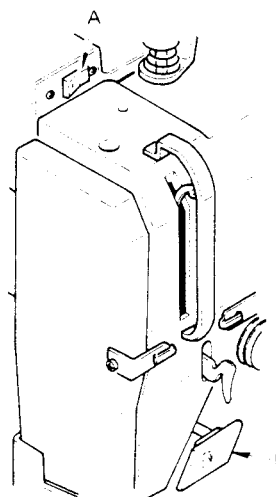

Fig. 37
- Turn switch **A** off when wiper is not required for sewing operation. (Fig. 37)
- Turn switch **A** off when needle thread holder is not required for the type of sewing operation being done. (Fig. 37)
- When push plate **B**, Fig. 37 is pressed, the machine will immediately change from forward to reverse feed for back tacking and return to forward feed when released.